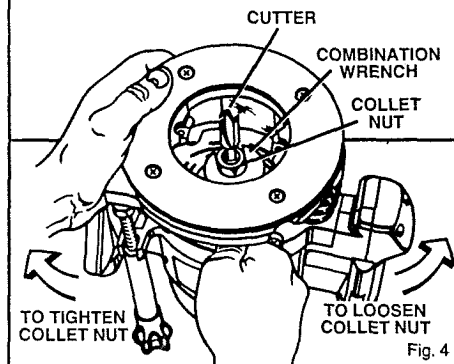

Fig. 4
4. Place 7/8" end of the combination wrench provided through back of router base onto collet nut and turn counterclockwise to loosen. See Figure 4.
8. Tighten the collet nut securely by turning clockwise with the wrench provided. See Figure 4.